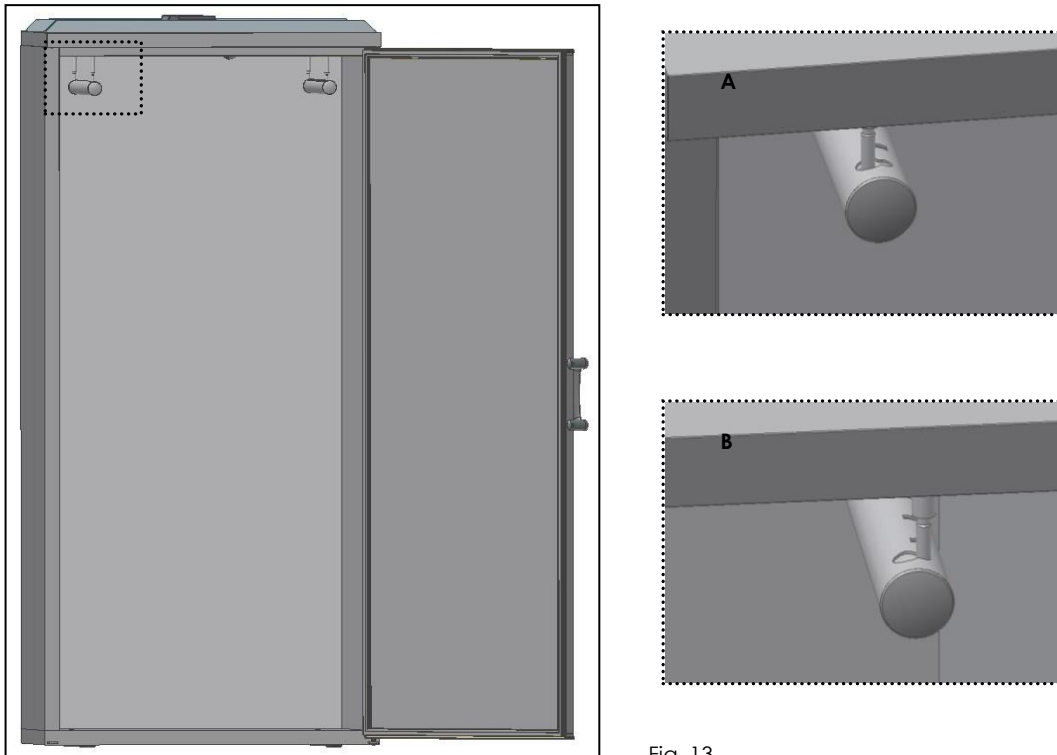

Fig. 13
- Fix the **side pipes** into the supports (A) and turn it to the final position (B) (Fig.13);